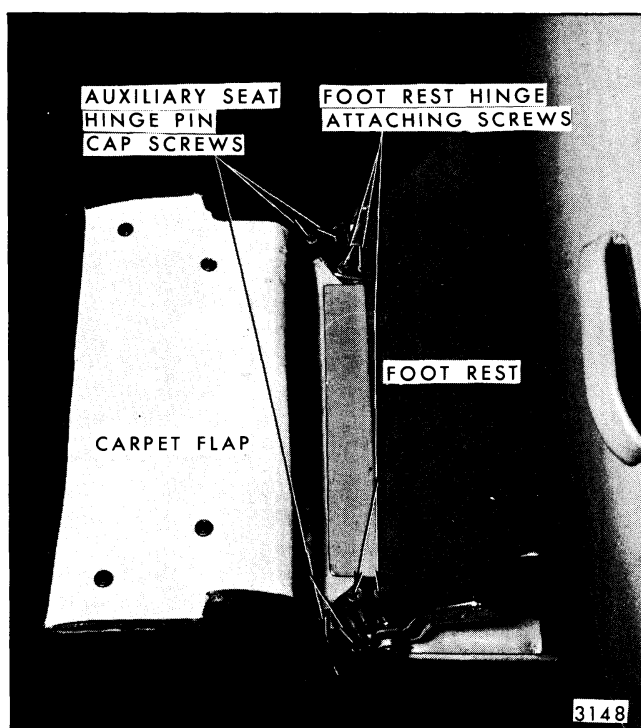

Fig. 9-58-Auxiliary Seat Assembly - Removal and Installation - Cadillac Limousine Styles
2. Move rear seat foot rest rearward; then, unsnap carpet flap. Move foot rest forward and carefully pull carpet flap from under foot rest, as shown in Figure 9-58.
3. Remove foot rest hinge attaching screws and remove foot rest assembly (Fig. 9-58).
4. Remove auxiliary seat hinge pin cap screws; then, remove cap and auxiliary seat assembly (Fig. 9-58).